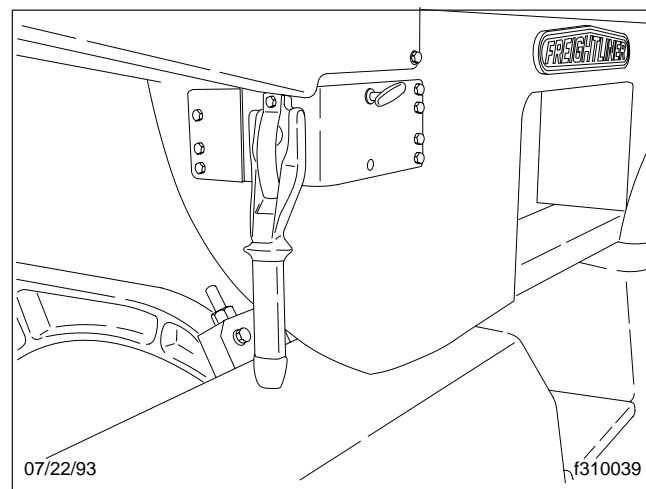
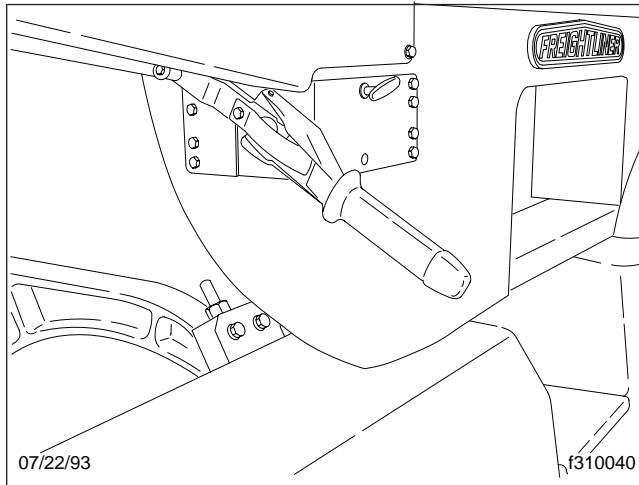

Fig. 7, Latch Handle (Locked Position)
Fig. 8, Latch handle (Unlocked Position)
- Unlock the back-of-cab latch handles (Fig. 7) by pulling them outward. See Fig. 8.
4. Lock the cab latch handles. See Fig. 7. Make sure the cab latch hooks have engaged the U-bolts on the cab mounts, and that each latch handle lockpin is engaged.